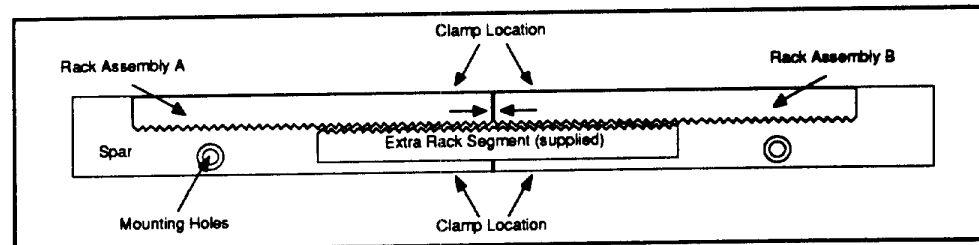

Figure 2-8. Aligning Multiple Rack Assemblies
- ① Align the two pieces of the rack assembly on the mounting surface. The adjoining ends are marked by either arrows or other ink marks. Match the ends together as shown in Figure 2-8.
- ② To correctly set the gap between the adjoining rack assemblies (this maintains accuracy when the pinion moves from one rack to the next), push the extra rack segment (supplied) so that its teeth mesh with the two adjoining racks (see Figure 2-8), clamp the rack assemblies into place, and then mark the mounting holes on the mounting surface as described above.
Invert the extra rack segment (supplied) into the teeth of the rack assembly and clamp the pieces together. Keep the rack segment clamped together while you adjust the assembly for parallelism. Refer to Figure 2-8.